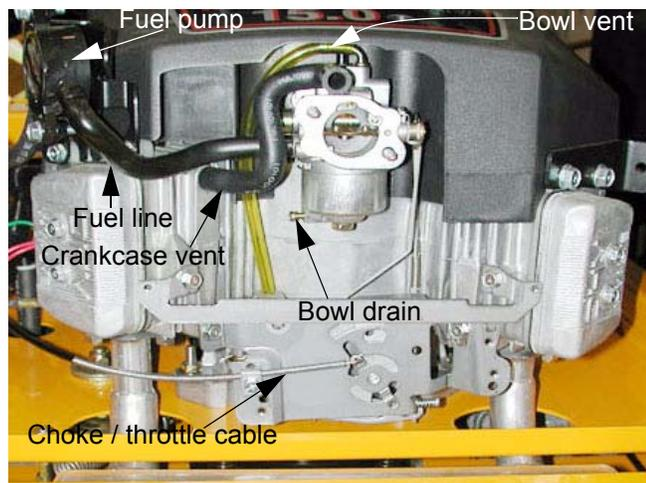

Figure 14.2
- 14.2. The carburetor is equipped with a bowl drain for off season storage as well as draining of contaminated or stale fuel. See Figure 14.2.
**NOTE:** Air filter housing completely removed for figure 14.2